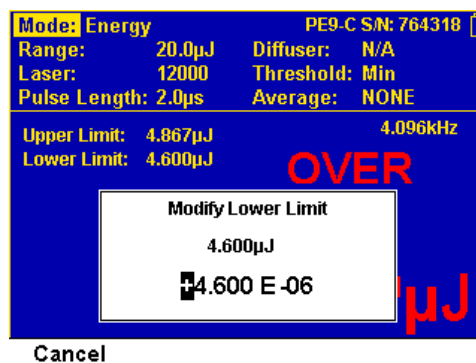

Figure 9-29 Pyroelectric Pass/Fail - Modify Upper Limit
1. Press the **Upper** or **Lower** key. The respective **Modify Upper/Lower Limit** window opens (see Figure 9-29 below).
If the measurement is out of range, "OVER" or "UNDER" will be displayed on the screen. If the Color Scheme has been set to one of the full color options, then this will be displayed in RED, along with the reading itself (as shown in Figure 9-29 below).